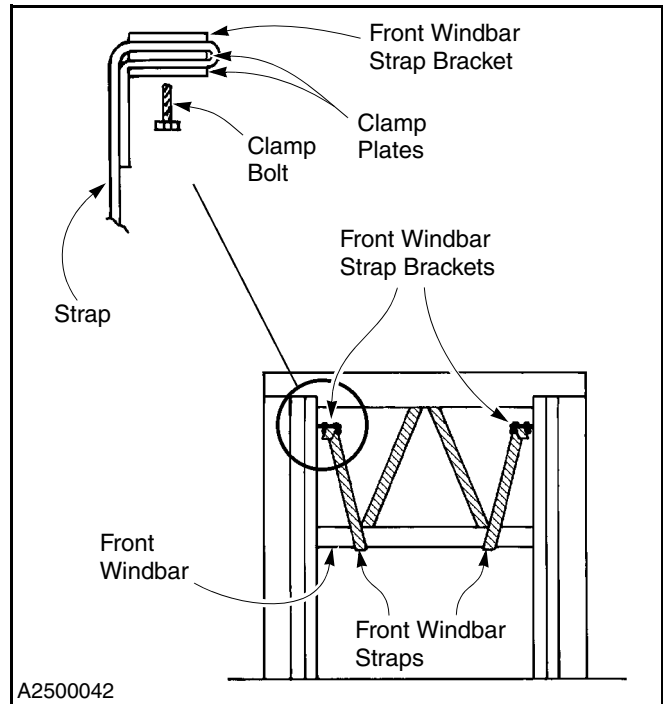

Figure 68
7. **Front Windbar:** Route the straps under the front windbar and up through the clamp plates of the front windbar strap bracket. (See Figure 68.)